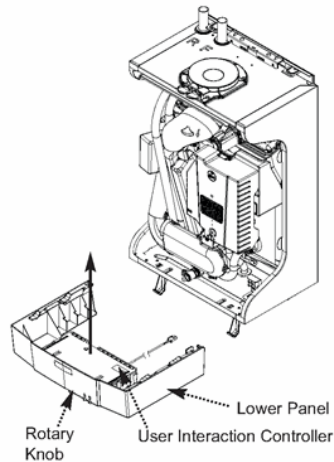

Fig. 60
**10.3.12 User Interaction Controller (Fig. 60)**